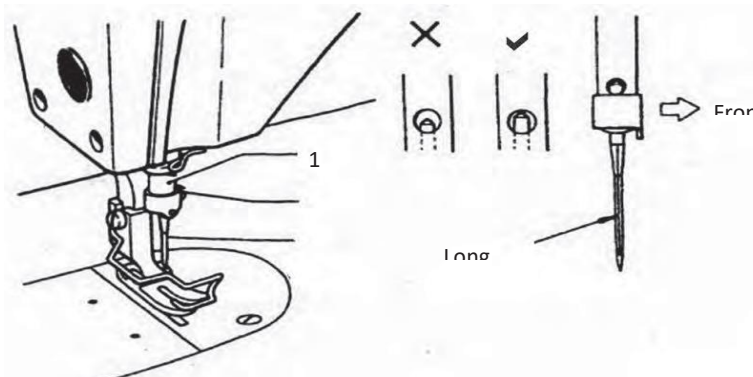

Fig. 2.48: Attaching the needle
1. Pull the needle bar to the highest level to insert the needle (Fig. 2.48 Label:1).
2. Loosen the screw or needle clamp to fix the needle (Fig. 2.48 Label:2).
3. Keep in mind that there is a groove. Insert the needle (Fig. 2.48 Label: 3) in a straight line in the groove and tighten the needle clamp securely and tightly to fix the needle properly.